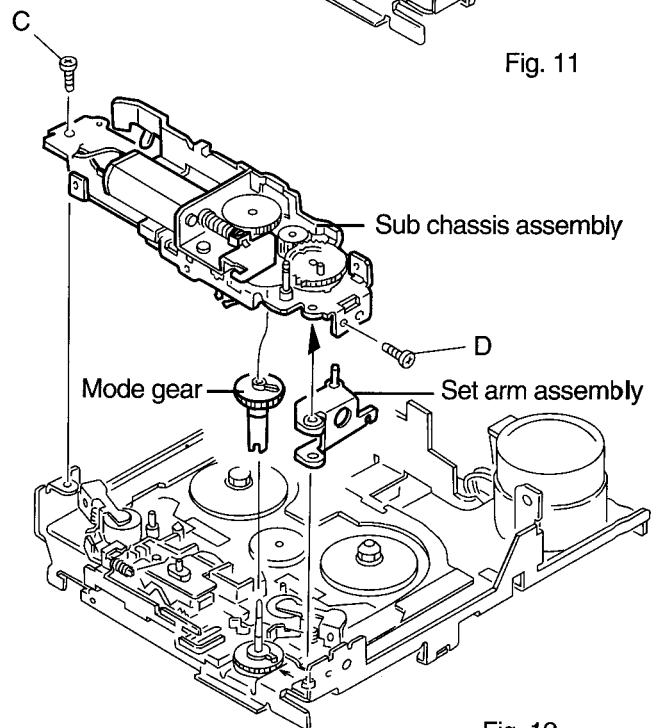

Fig. 12
■ Removing the Flywheel Assembly (See Fig. 12)
- Note : The set arm assembly and the mode gear should be positioned as shown in Fig. 12.